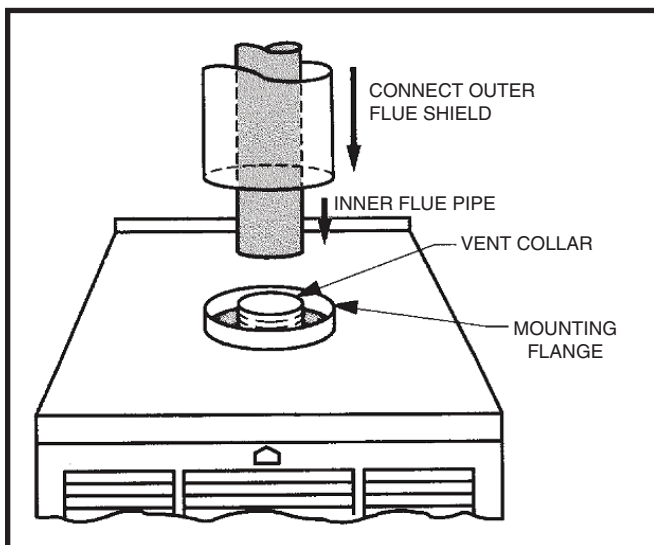

Figure 22. Combustion Air Pipe Connection
3. Connect inner flue pipe to vent collar of the furnace. See Figure 22.
4. Connect combustion air pipe to furnace collar with sheet metal screw. See Figure 22.